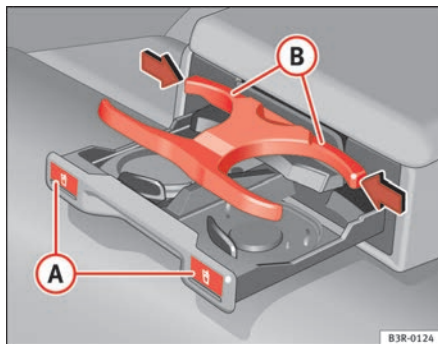

Fig. 124 Drink holder in the rear armrest
- Press the symbol  (A) ⇒ fig. 124.